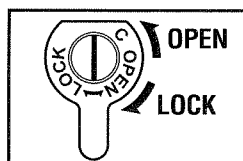

Fig.7
4. Turn the quick lock to the OPEN position as shown in Fig. 7.